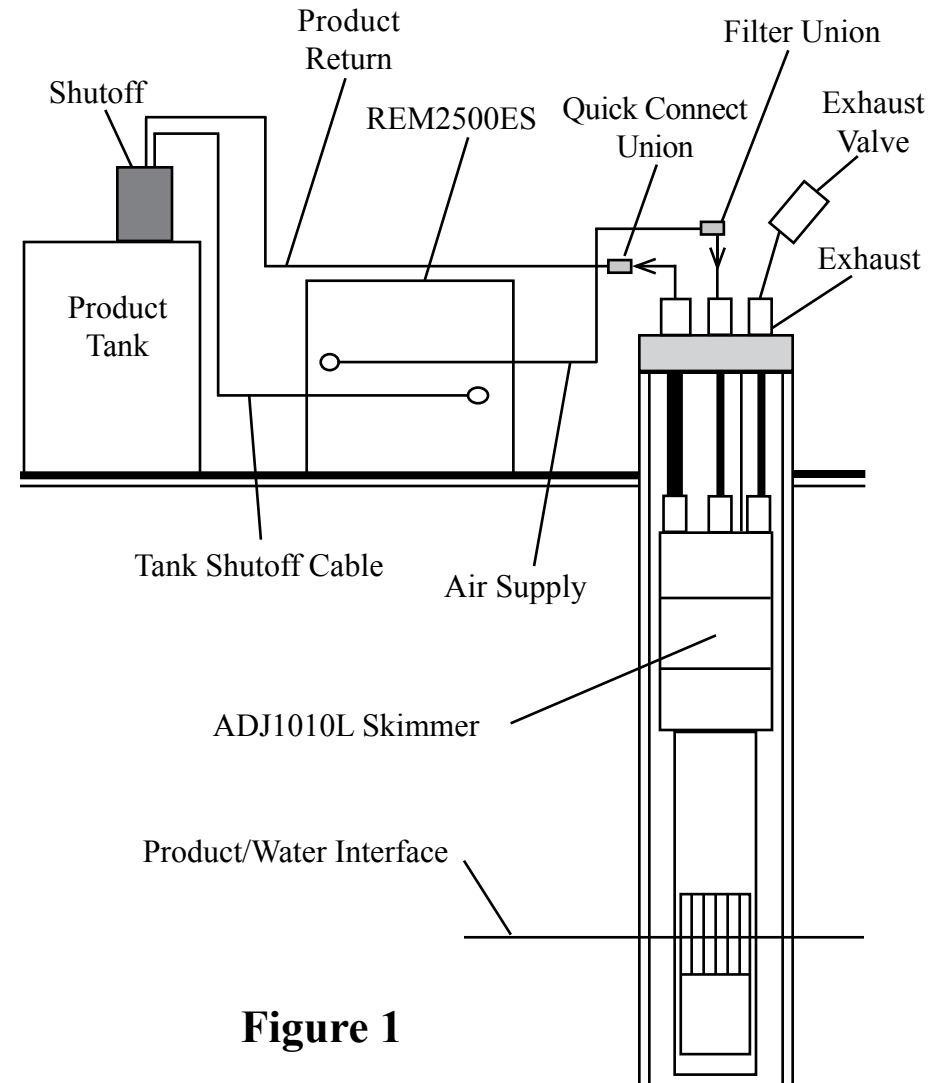
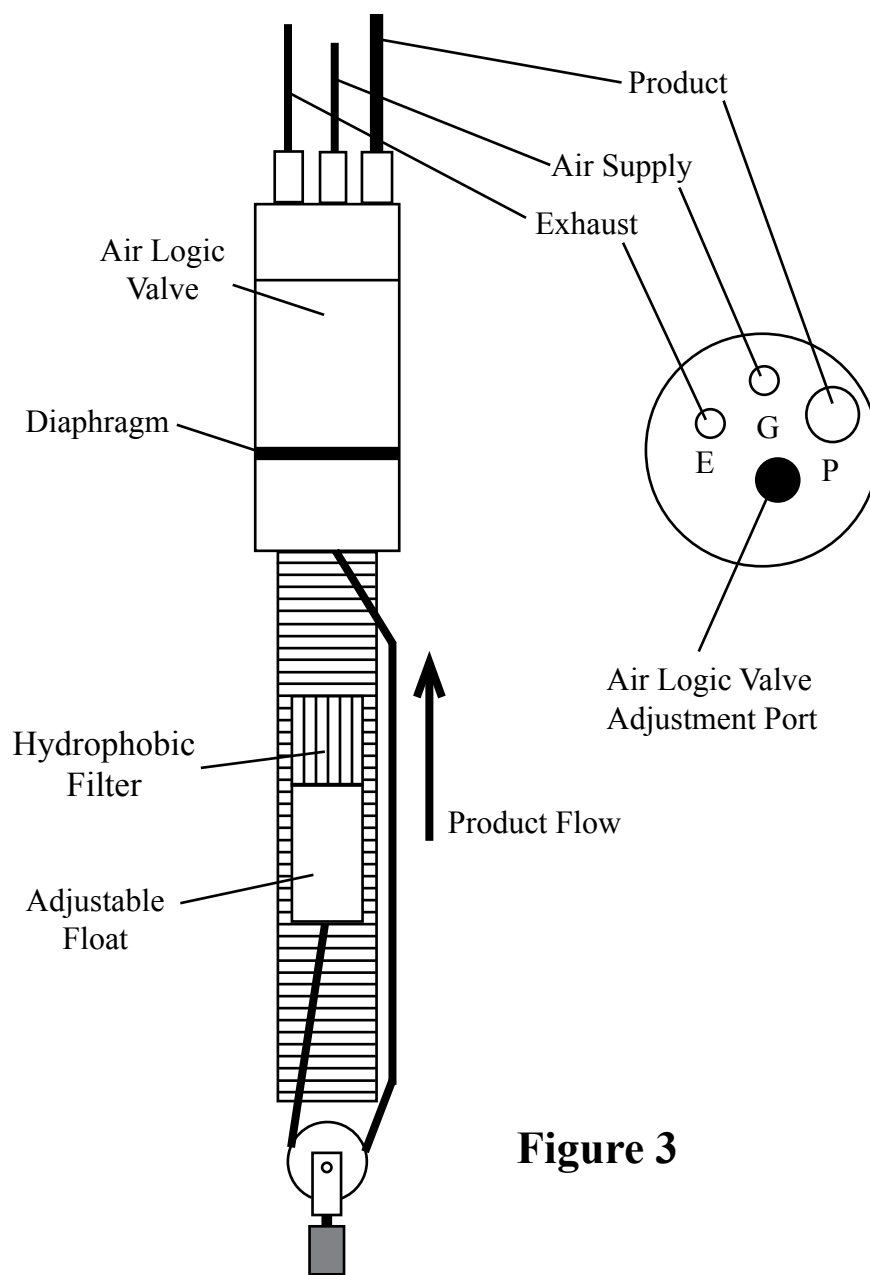

Figure 1
Figure 3
The system (Figure 1) relates to a floating LNAPL recovery system for wells four inches in diameter and larger. This system includes: an intrinsically safe ADJ1010L pneumatic Smart Skimmer, with an adjustable float (Figure 3), which removes LNAPL up to 200 feet deep; and a solar powered Control Station Model REM2500ES which operates the skimmer intermittently, records run time, and has a high level tank shutoff.
STEP 2. Install holding tank shutoff assembly into holding tank (a 2" standard pipe inlet will be required in the holding tank). The level of product in the holding tank can be set by raising or lowering the liquid level float switch rod. Plug the high level shutoff switch cable connector into the left end of the controller (Figure 1).
STEP 6. Position the skimmer and well cap on the ground near the well. **NOTE:** If the skimmer is over 60 feet deep, use a vented design skimmer. Cut a length of 3/8" OD air supply tubing to cover the distance from the top of the well down to water/product interface, plus 5 feet. Slide enough tubing through the well cap and attach the end of the tubing to the top of the skimmer tube fitting labeled "G" (Figure 3). If the product thickness is greater than 1 foot, position the center of the skimmer screen 1 foot below top of product. If the product thickness is less than 1 foot, position the center of the skimmer screen at the water/product interface.
STEP 7. Cut a length of 1/2" OD product tubing same length as the air supply line. Install 1/2" OD product tubing through the well cap tube fitting labeled "P" (Figure 3). Slide enough tubing through the well cap and attach the end of the tubing to the top of the skimmer tube fitting labeled "P". **CAUTION:** Do not kink the tubing.